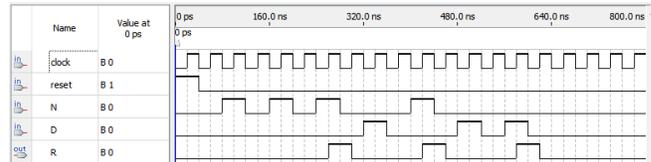

Figure 38. Simulation output waveform.
- Simulate. You should get the same output as Figure 38.